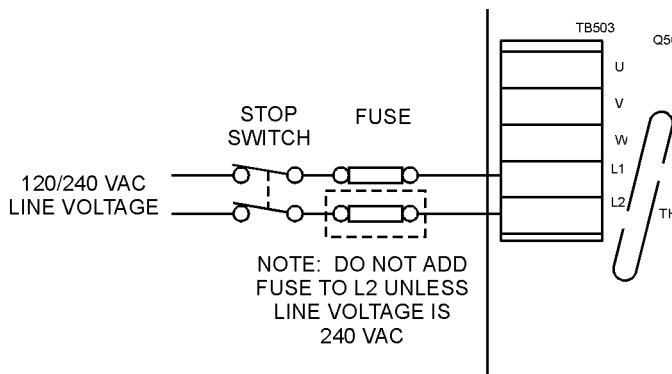
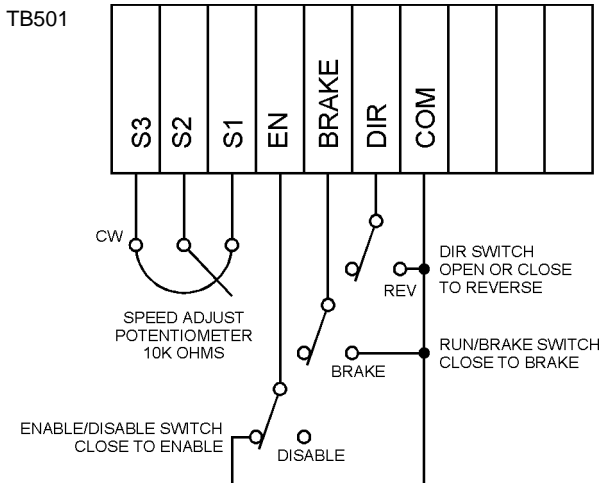

Figure 4. Power and Fuse Connections
Figure 5. Signal and Optional Switch Connections
MAC series drives require external AC power line fuses. Connect the external line fuse(s) in series with the AC voltage input (see Figure 4, page 10). Use fast-acting fuses rated for 250 VAC or higher.
Minarik strongly recommends the installation of a master power switch in the voltage input line, as shown in Figure 4 (page 10). The switch contacts should be rated at a minimum of 200% of drive current and 250 volts.
Connect the drive's power and line fuse(s) to terminal board TB503 as shown in Figure 4, page 10. Connect the drive's signal inputs and optional switches to terminal board TB501 as shown in Figure 5, page 12. For voltage signal follower connections, refer to Figure 22, page 45.
3. **Minarik strongly recommends the installation of a master power switch in the voltage input line, as shown in Figure 4.** The switch contacts should be rated at a minimum of 200% of drive current and 250 volts.
1. Connect a speed adjust potentiometer to terminals S1, S2 and S3 on terminal board TB503 (see Figure 5, page 12). Make sure the potentiometer is connected so that the motor speed will increase as the wiper (S2) is turned clockwise (CW).
2. Connect a single-pole, single-throw ENABLE/DISABLE switch between the EN and COM terminals as shown in Figure 5.
3. Connect a single-pole, single-throw RUN/BRAKE switch between the BRK and COM terminals as shown in Figure 5. Closing the switch will cause the drive to regeneratively brake to a stop.
4. Connect a single-pole, single-throw FWD/REV switch between the DIR and COM terminals as shown in Figure 5. Opening or closing the switch will cause the drive to change the direction of motor shaft rotation.
Allowing the RUN/BRAKE switch to remain in the BRAKE position for an extended period of time may cause motor overheating. Minarik recommends that you disable the drive or remove power if the motor is to remain idle. See Figure 5 (page 12) for ENABLE/DISABLE switch installation.
To brake the motor, close the RUN/BRAKE switch, or place a jumper across the BRK and COM terminals of TB501. See Figure 5, page 12, for switch installation.
Open the ENABLE/DISABLE switch, or remove the jumper between the EN and COM terminals of TB501. See Figure 5, page 12, for switch installation.
Minarik strongly recommends the installation of a master power switch in the voltage input line (see Figure 4, page 10). The switch contacts should be rated at a minimum of 200% of drive current and 250 volts.